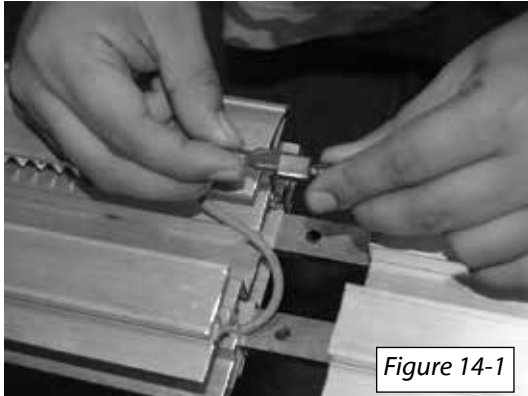

Figure 14-1
2. Position the two ends of the rails close together. Connect the plugs on each end of the two power supply wires inside the rail pieces. [Figure 14-1 and 14-2]